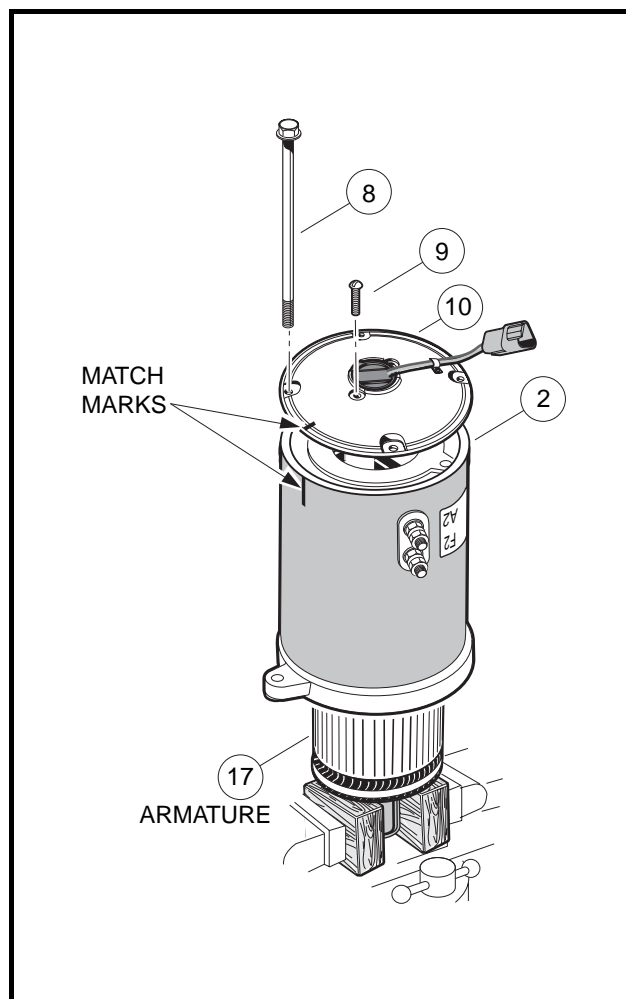
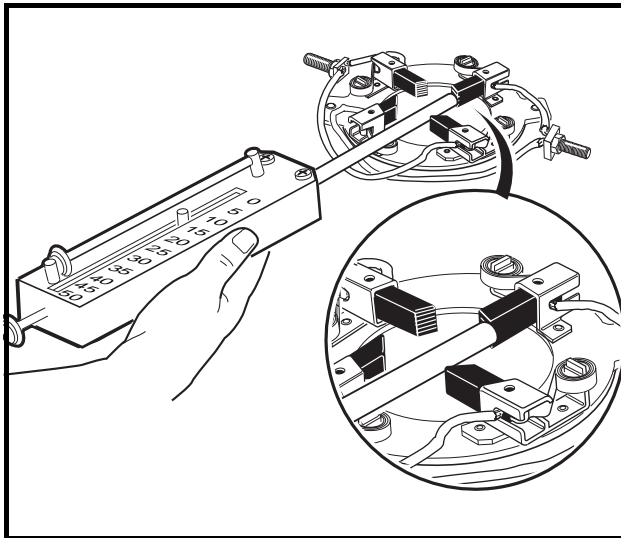
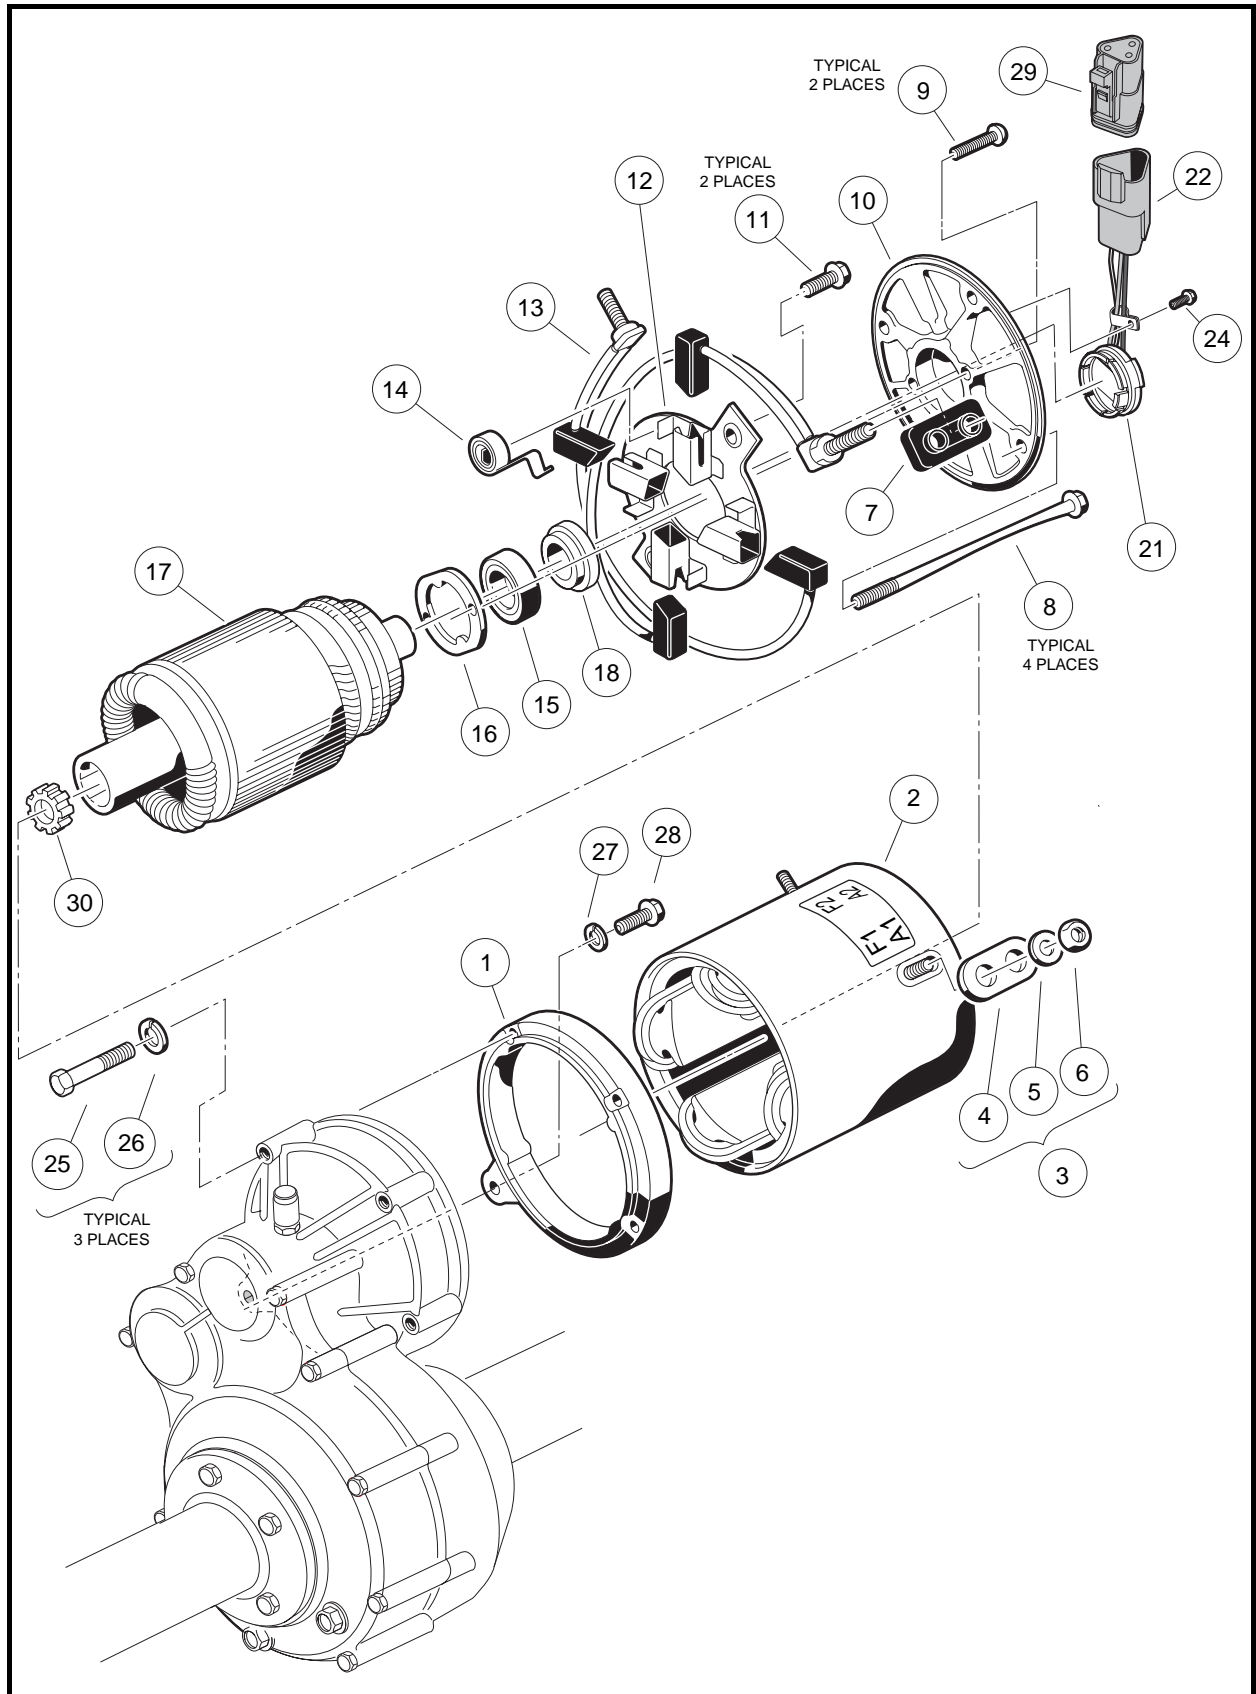
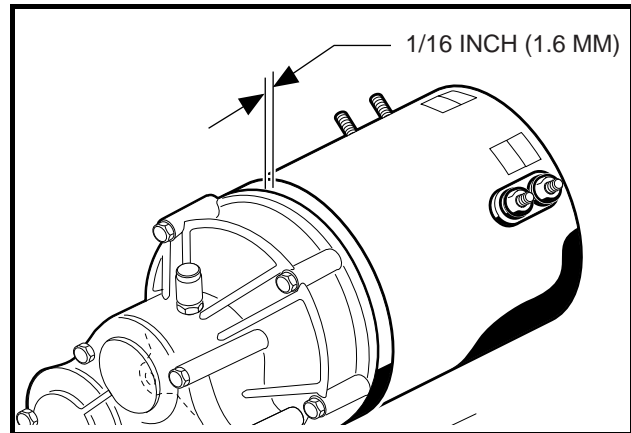

Figure 16-4 Motor Disassembly
Figure 16-7 Brush Spring Tension Test
Figure 16-9 Motor
Figure 16-16 Gap at Motor and Transaxle
- Before beginning disassembly, place match marks on the motor end shield and stator shell, then place the motor in a vice with wooden blocks as shown (**Figure 16-4, Page 16-4**).
- Remove the four bolts (8) securing the end shield (10) to the stator shell (2).
- Remove the two screws (9) attaching the end shield to the bearing retainer.
- Slide the armature (17) out of the opposite end of the stator shell (2).
- Remove two screws (11) attaching brush rigging (12) to the stator shell (2) (**Figure 16-9, Page 16-8**).
- Mark the brush terminal posts (A1 and A2) (13) to identify their positions in the stator shell, then remove the nuts (6) and flat washers (5) (**Figure 16-9, Page 16-8**). From the outside, push the posts through the stator shell wall into the interior of the stator shell.
1. Inspect the insulators (4 and 7) for cracks or other damage (**Figure 16-9, Page 16-8**).
2. Inspect the brushes (13) for damage or excessive wear. Replace brushes if required. **See following NOTE.**
3. Inspect the brush springs (14) (**Figure 16-9, Page 16-8**). Replace springs that are discolored from heat (light gold or blue tinted). Replace springs which apply a force of less than 16 oz. (**Figure 16-7, Page 16-7**). **See following CAUTION and NOTE.**
1. Place the wedge attachment tool (CCI P/N 1012812) between the bearing (15) and the armature (17) (**Figure 16-9, Page 16-8**). Make sure the wedge attachment tool is supporting the inner race of the bearing. If a press is not available, secure a bearing puller (CCI P/N 1012811) to the bearing and pull the bearing off of the end of the armature shaft. Support the shaft so it will not drop when the bearing is removed (**Figure 16-10, Page 16-10**). Discard the bearing and speed sensor magnet. **See following NOTE.**
1. Press a new bearing (15) onto the armature (**Figure 16-9, Page 16-8**). Use an arbor press that exerts pressure on the inner race only. **See following NOTE.**
**NOTE:** Make sure the bearing retainer (16) is positioned on the armature shaft before the bearing is pressed onto the armature (**Figure 16-9, Page 16-8**).
Inspect the speed sensor magnet (18) for rust, wear, and cracks (**Figure 16-9, Page 16-8**). Replace the magnet if necessary.
1. To remove the speed sensor magnet (18), remove the motor bearing (**Figure 16-9, Page 16-8**). See **Bearing Removal on page 16-7**.
- 3.1. Attach the end shield (10) to bearing retainer (16) by aligning the two holes in the bearing retainer with the two mating holes in the end shield and installing the screws (9) (Figure 16-9, Page 16-8). Tighten the screws to 17 in-lb (1.9 N·m). **See following NOTE.**
- 3.2. Align the match marks on the end shield and the stator shell, then install the four screws (8) (Figure 16-9, Page 16-8). Tighten the screws to 90 in-lb (10 N·m). **See following NOTE.**
- 3.1. With the flat side toward the bottom of the coupling, install the molded bumper (30) into the motor coupling (**Figure 16-9, Page 16-8**). **See following NOTE.**
When the motor is pushed onto the input shaft, the motor adapter ring (1) will not bottom out against the transaxle housing (**Figure 16-9, Page 16-8**). There will be approximately 1/16 inch (1.6 mm) gap between the motor adapter ring and transaxle housing as shown (**Figure 16-16, Page 16-13**).